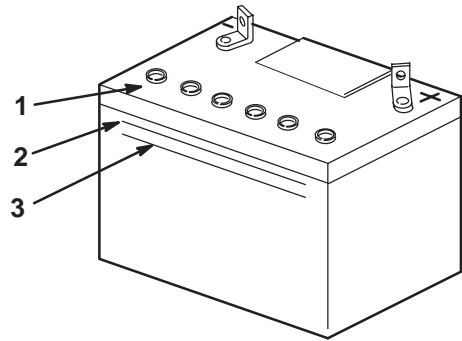

Figure 64
2. Look at the side of the battery. The electrolyte must be up to the **upper** line (Fig. 64). Do not allow the electrolyte to get below the **lower** line (Fig. 64).
3. Remove the vent caps from the battery (Fig. 64).
4. Slowly pour distilled water into each battery cell until the level is up to the **upper** line (Fig. 64) on the battery case.
5. Wait five to ten minutes after filling the battery cells. Add distilled water, if necessary, until the electrolyte level is up to the **upper** line (Fig. 64) on the battery case.